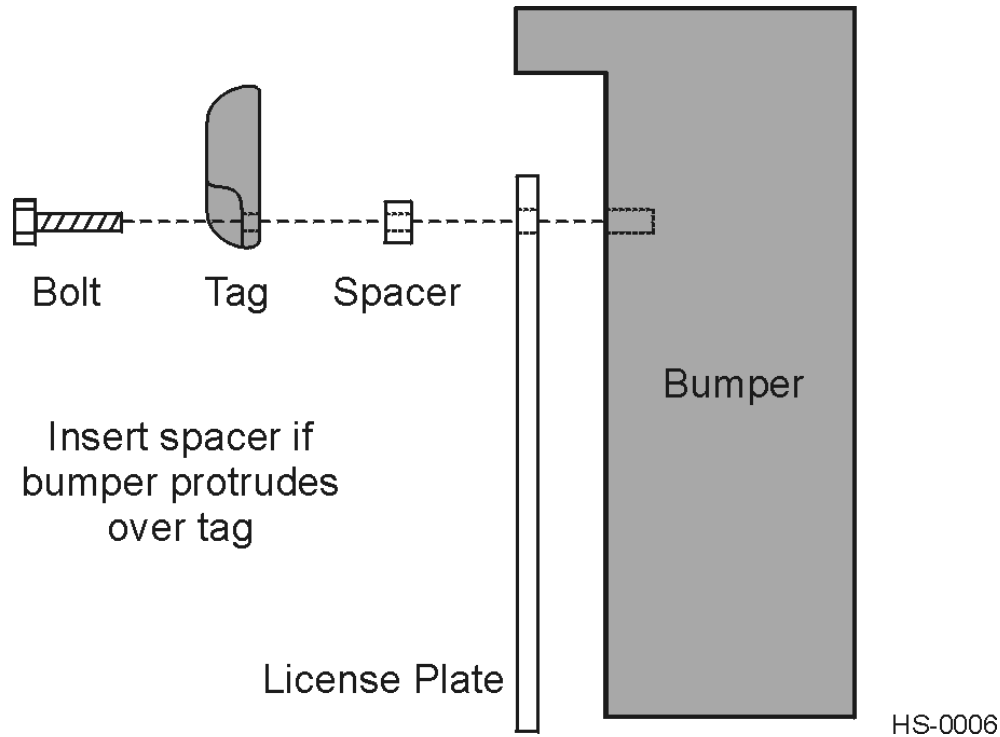

Figure 21 Spacer Positioned Behind Tag
2. No material should overhang the tag. If overhang is more than ½ inch (1.27 cm), insert spacers or washers directly behind the tag so that the tag is clear of any overhanging obstruction. Secure the bolts with a nut (Figure 21).